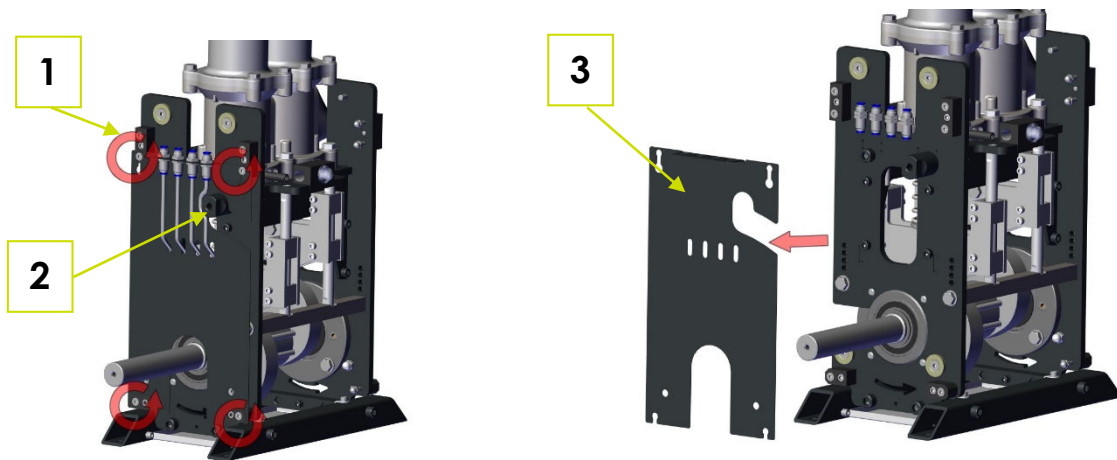

Fig. 4-8: Dismounting the drive cover
1. On the rear of the Piston pump (Fig. 4-8: Dismounting the drive cover) unscrew the four hexagon socket screws M6x50 (1) 5 turns using a 4 mm Allen key (⌚).
2. Disconnect the grease lines (2) from the push-in fittings.
3. Pull off the drive cover (3) in the direction of the arrow (Fig. 4-8: Dismounting the drive cover).